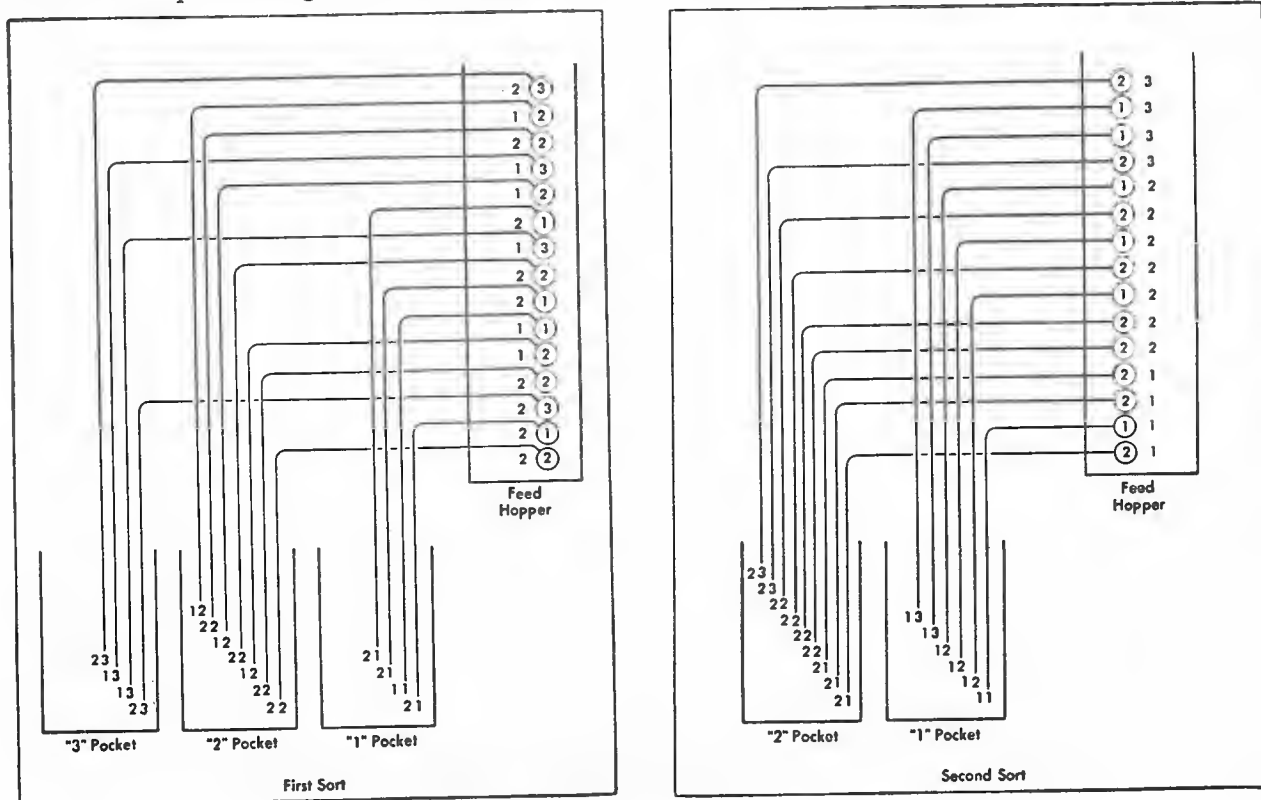

Figure 11. Sorting Exercise
As a practice exercise, let us take a group of cards which contain numerical punching and sort them into sequence. Figure 11 illustrates the
- d) The Start button would be pressed. After the last card has been processed, the machine would stop. The contents of the various pockets are illustrated in Figure 11 "First Sort", the left hand diagram.
- g) The cards are then joggled and placed in the feed hopper. They appear in the feed hopper as illustrated in the right-hand portion of Figure 11.
- i) After the last card has run through the machine, the sorter will stop. The contents of the various pockets are illustrated in Figure 11, "Second Sort", the right hand diagram. Of course, at this point the feed hopper is empty.